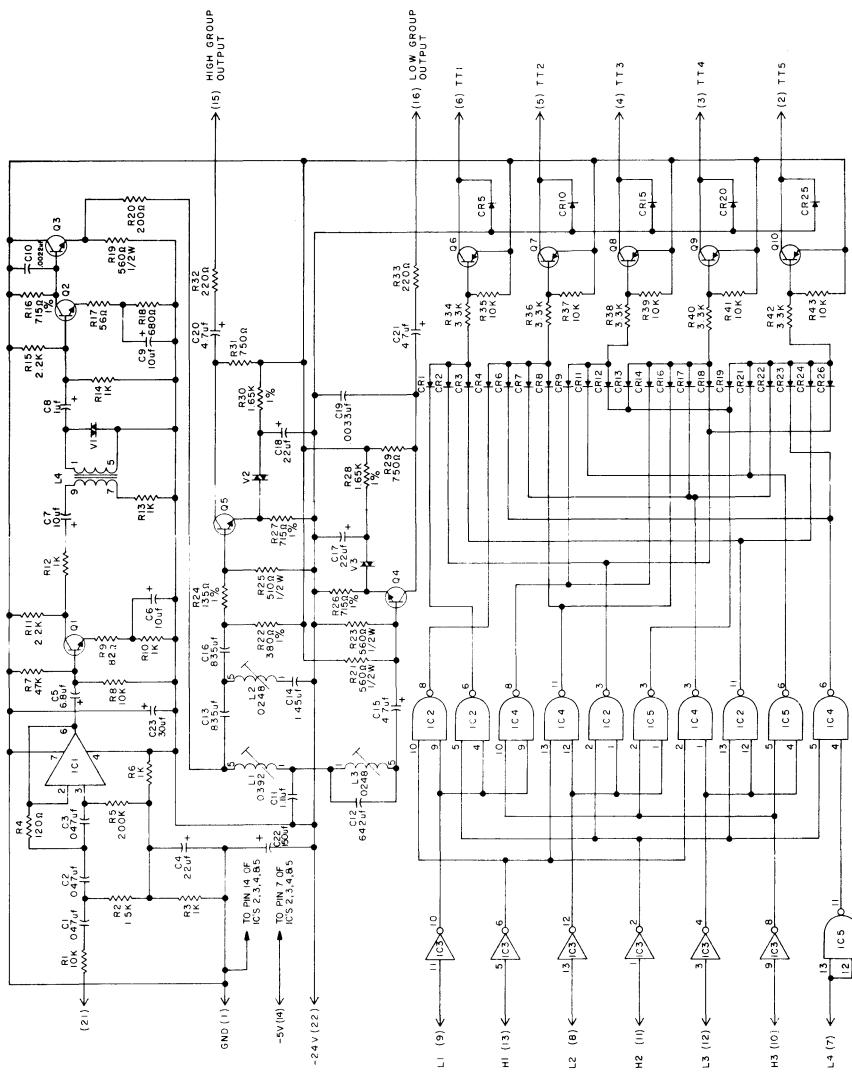

Fig. 6 - Circuit Diagram, K166B KTU
2.06 K166B Pushbutton (Tone) Dial Translator Card. One is used per system in conjunction with a K166A Detector Card to adapt intercom system to accommodate pushbutton dialing. Approximate dimensions in inches are 5 3/8" W x 5 5/8" L x 1 1/4" D. (22 dual contacts.) See fig. 6.